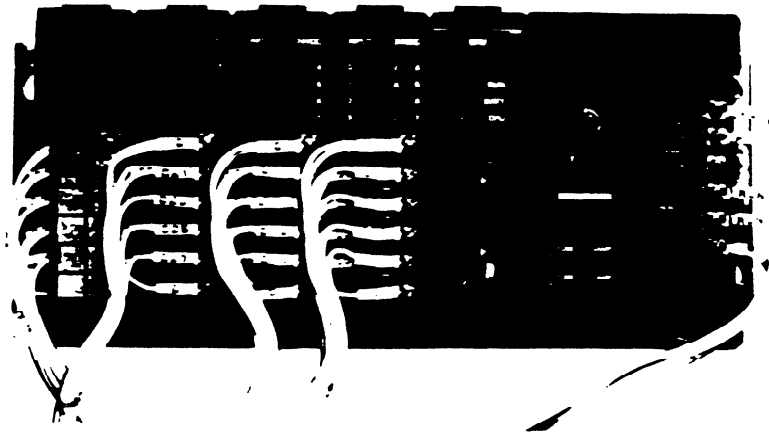

Figure 3-11. Typical Routing of I/O Wiring
35. Wires should be laced together to leave a service loop adequate for removal of I/O modules without disconnecting wires. See figure 3-11. After testing of I/O wiring, replace plastic covers.